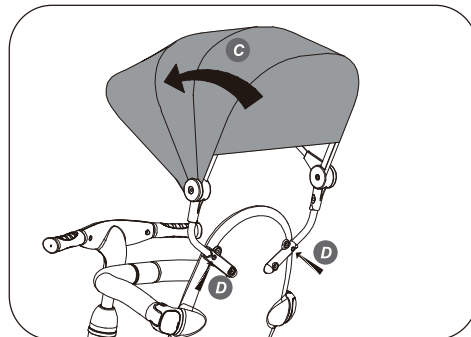

Fig. 15
19. The Canopy can be opened holding the front of the canopy and pulling forward **C** (See Fig. 15).
20. To remove the Canopy, push the buttons **D** inward on the Canopy Posts and pull outward from the Canopy Post Anchors (See Fig. 15).